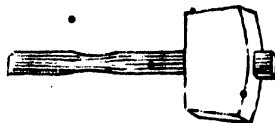

Fig. 72.
**The Mallet.**—This is a hammer with a large wooden head (Fig. 72). Its blow is not as sharp as that of a hammer with an iron head, and so it is used for striking things which would be injured by an ordinary hammer, e.g., the wooden handle of a chisel.